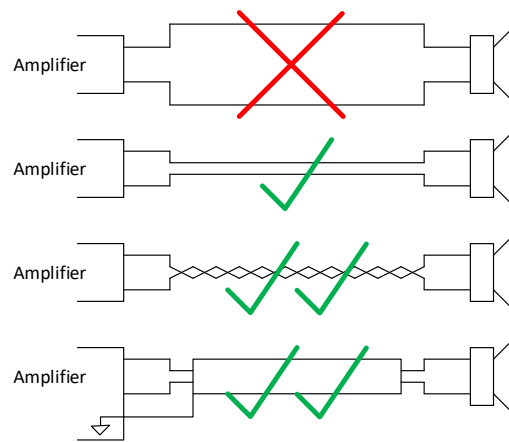

Figure 33: Speaker wire routing
- Avoid wire loops on the speaker output wires. Use wires closely paired side by side or if required use twisted or shielded cables (Figure 33)